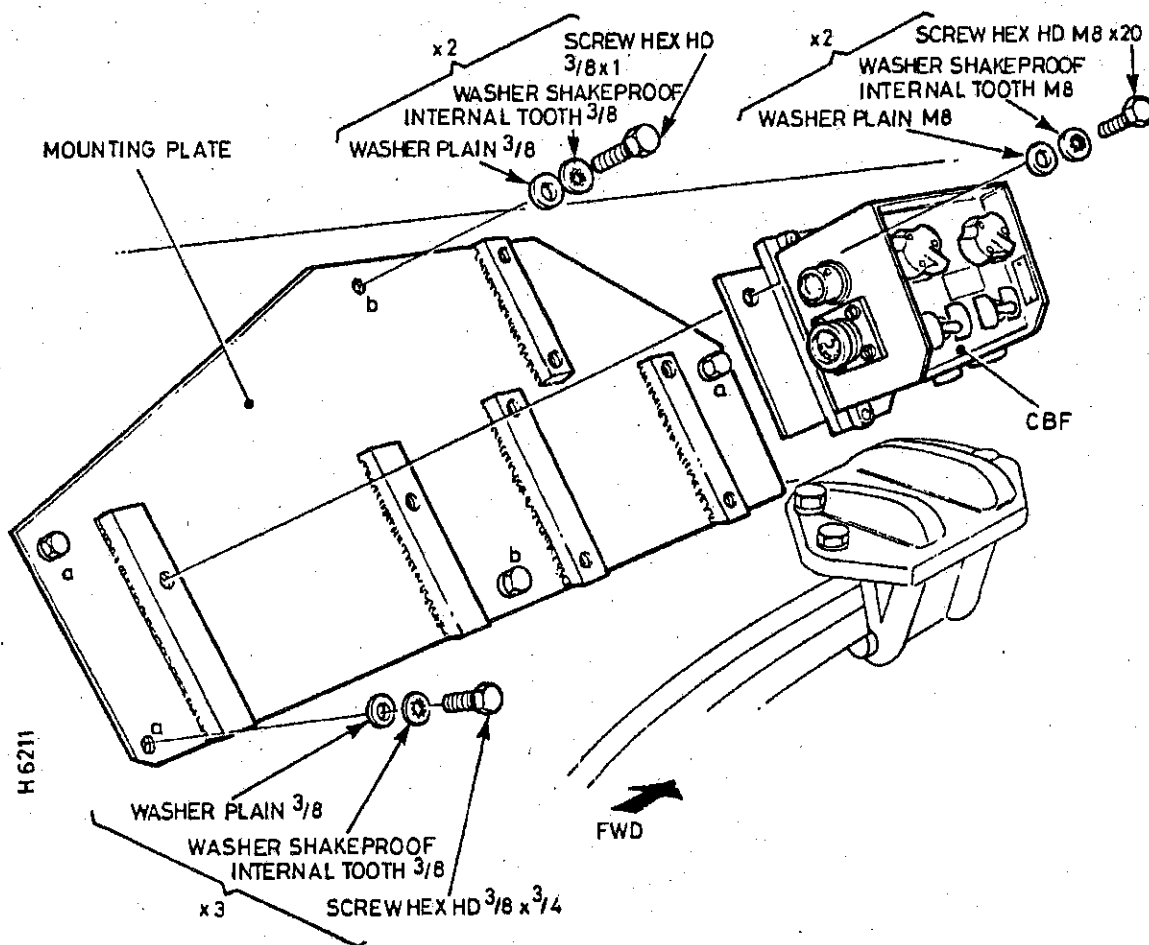

Fig 4 CBF mounting
18 Locate Plate Mounting (18) to the forward l.h.s. of the turret as shown in Fig 4 and secure using three off 3/8 UNC x 3/4 lg screws, two off 3/8 UNC x 1 lg screws, five off 3/8 shakeproof washers and 3/8 plain washers. (Operation 5).